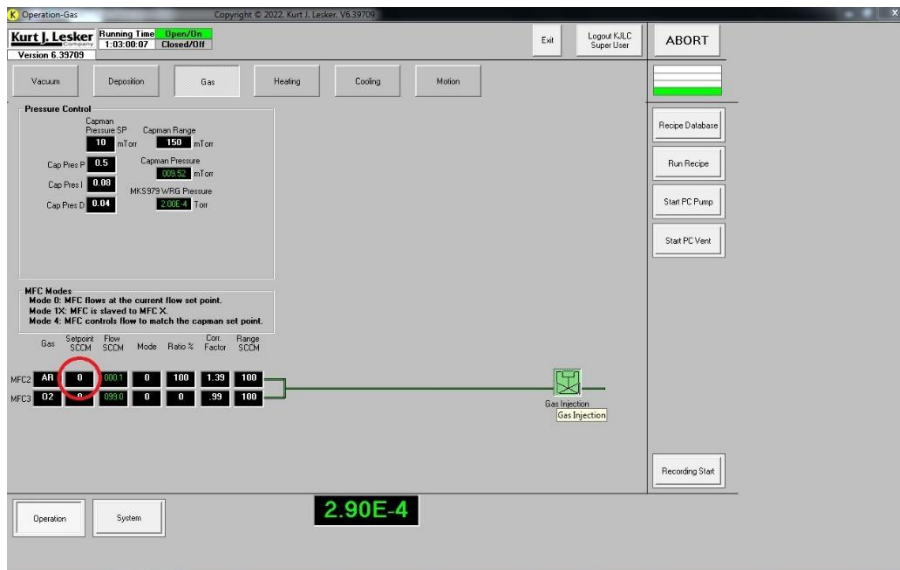

Figure 3 - Gas Set-Up Screen
3. Click on Gas tab so Figure 3 is displayed on the screen.
4. Click on Setpoint SCCM for MFC2 - Circled in Figure 3.
7. Click on Gas tab so Figure 3 is displayed on the screen.
8. Click on Setpoint SCCM for MFC2 - Circled in Figure 3.